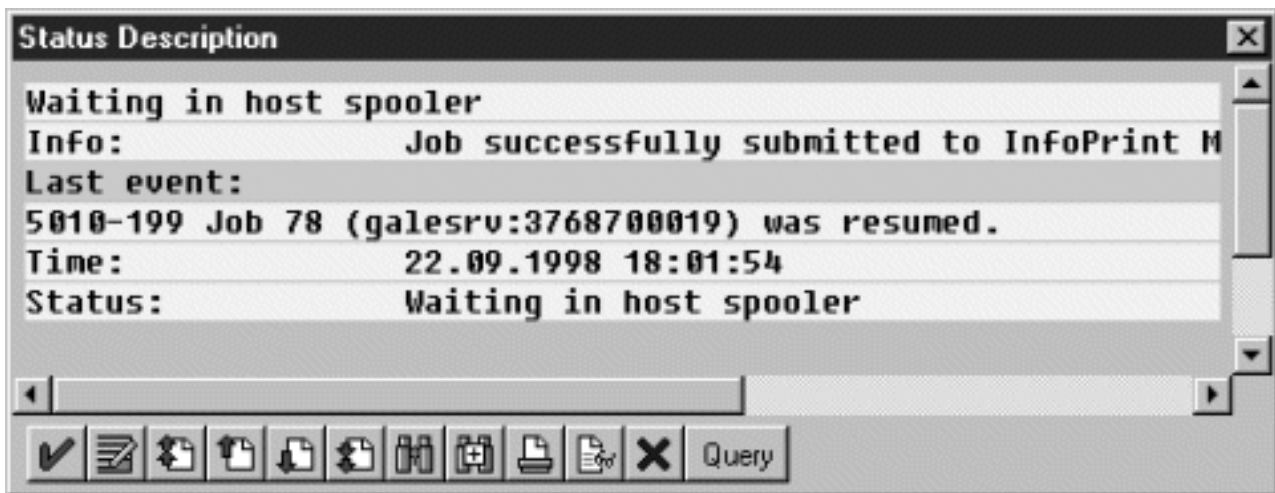

Figure 15. SAP R/3 Status Description field
2. From the **Status Description** pop-up window (see Figure 15), you can see current information about the job, including the last event received.